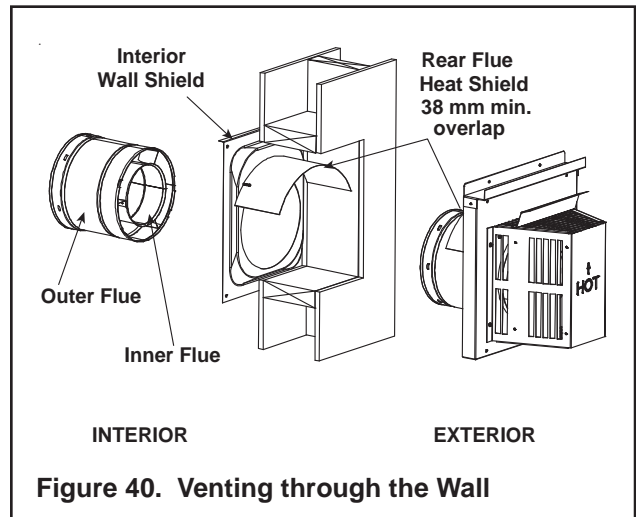

Figure 40. Venting through the Wall
- One section of the heat shield is attached to the wall shield. The other is attached to the termination cap in the same manner (see Figure 40).
- The small leg in the shield rests on top of the flue to properly space it from the pipe section (see Figure 40).